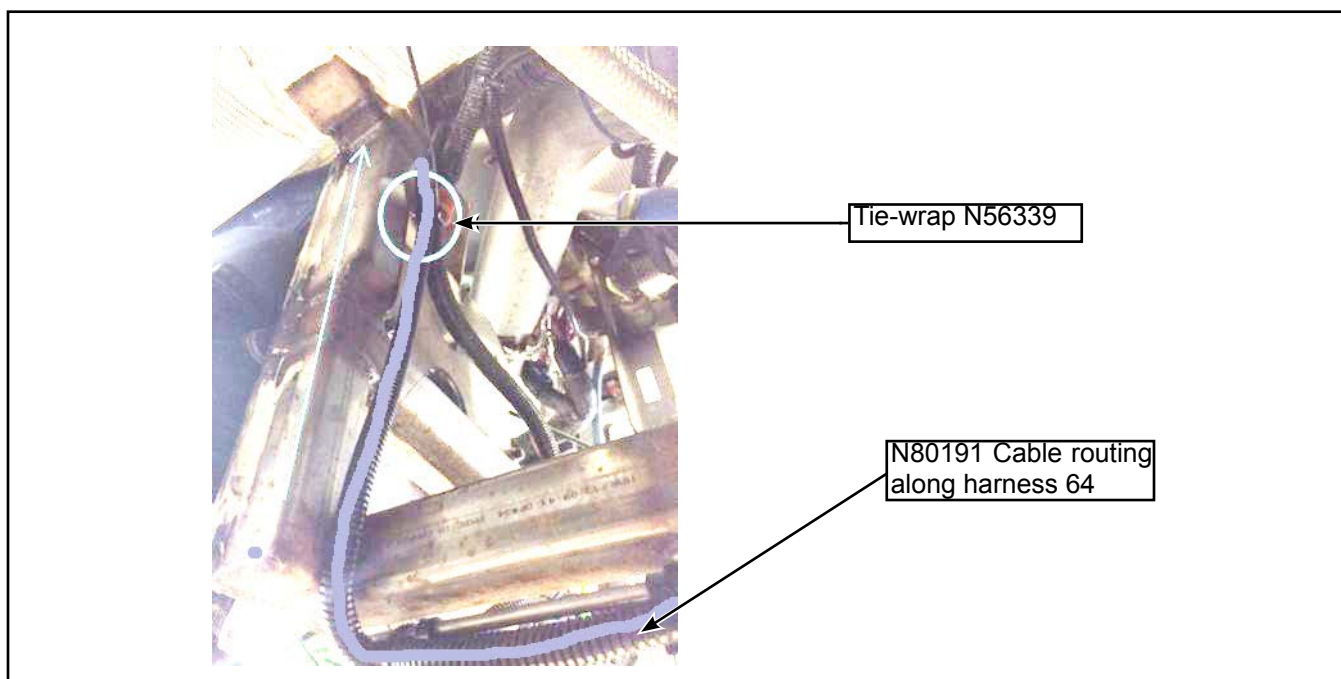

Figure 8 - Cable Routing Along Harness 64
- 1.9. Continue cable routing along harness 64 (see Figure 8).